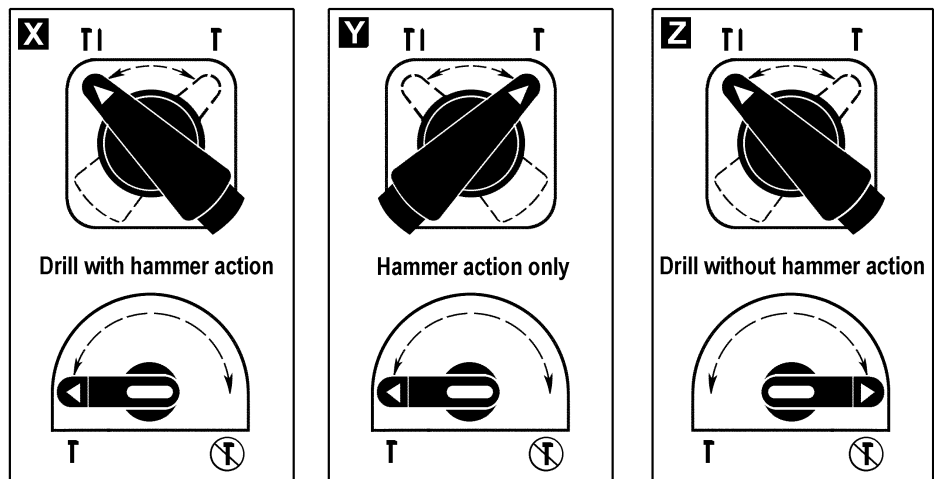

fig 3
3.3.3 **These two controls are used in combination to select the three operational modes of the drill as shown in fig.3.**
Position both selectors as shown in fig.3-X
Position both selectors as shown in fig.3-Y
Position both selectors as shown in fig.3-Z
4.1.5. To increase drill penetration switch the hammer action on. Set the control selectors according to fig.3-X.
4.2.3. Set the control selectors according to fig.3-Y